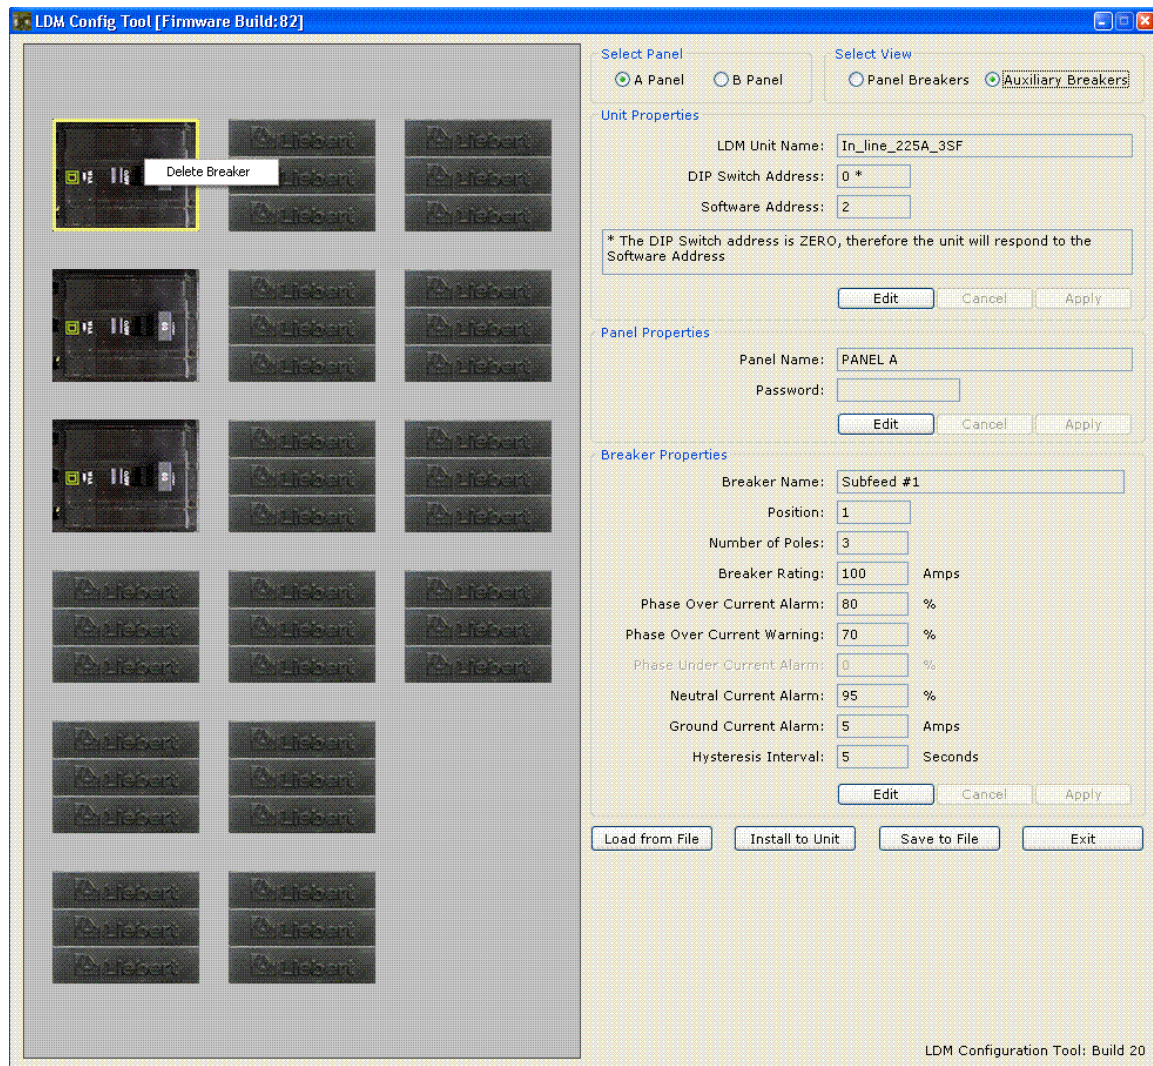

Figure 4
- Edit (Main/Subfeed selected) - All highlighted properties can be modified using "Edit". The grayed out properties (position and number of poles) CANNOT be modified/See FIG. 4
1.3 Lower Screen Toggle Buttons/See Fig. 4